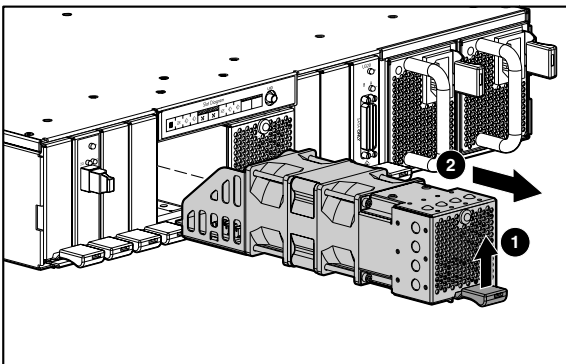

Figure 3: Removing the fan module
1. Lift the port-colored fan module latch ❶ and pull the fan module out of the enclosure ❷ as shown in Figure 3.